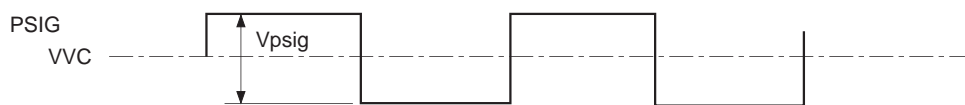

Fig. 1
- 1) During 4:3 display, input the voltage amplitude symmetrical to V_{VC} as shown in Fig. 1.